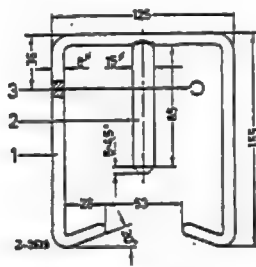

Fig. 42-3a/31
Note: The tensioning fixture can be made in the shop in accordance with the dimensions given in Fig. 42-3a/31. The retaining wire (3) holds the piston assembly to facilitate the positioning of the individual parts. The tensioning fixture shown in Fig. 42-3a/30 was not yet provided with such a retaining wire.
12. Install in the housing (22a) first the support ring (8), and then a vacuum seal (6), the spacer ring (7), the second vacuum seal (6) and the piston rod washer (4). If necessary press the vacuum seal into the housing with a blunt instrument. Finally insert the piston stop ring (5) (Fig. 42-3a/27).